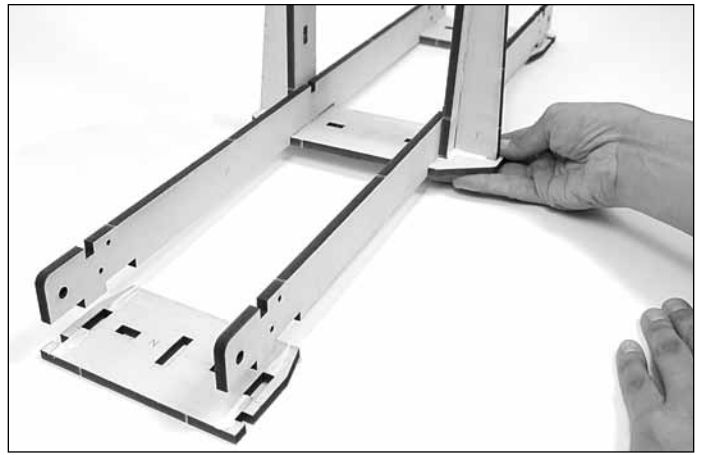

Figure 10
4. Find Parts M and N. Carefully slide M under one end of the Parts H and glue these together. Now slide N under the other end of the Parts H and glue them together (Figure 10). For both of these parts, make sure the end that is slightly angled is facing toward the middle of the trebuchet. Let this assembly dry.